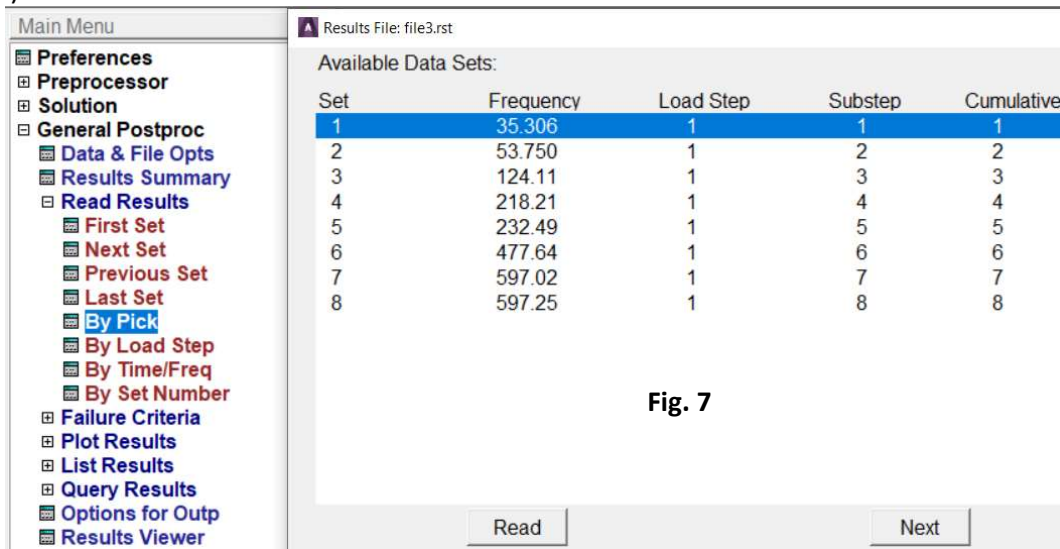

Fig. 7
10. Read results of modal analysis (*Main Menu > General Postproc > Read Results > By Pick*) for the first set (Fig. 7)